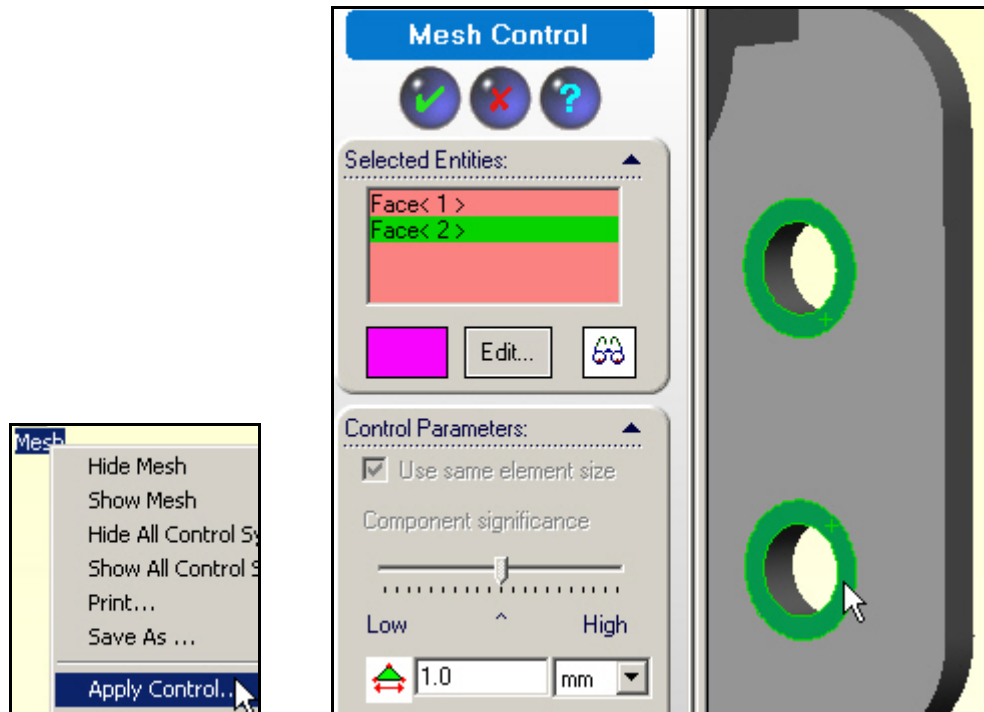

Figure 11 Controlling elements under the bolt washer split surfaces
1. Right click on **Mesh** → **Apply Control** to bring up the **Mesh Control panel**. The default element size of about 3 mm needs to be changed in the new regions created above. Select the region around the two bolt washers by picking those two surfaces, in Figure 11, and setting the desired size to 1mm.